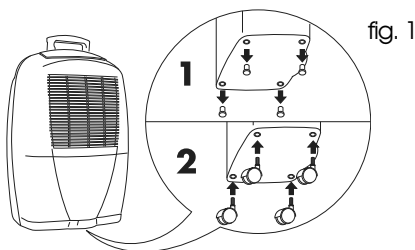

fig. 1
- 2) Remove the rubber caps from the base of the appliance by pulling them out, using pliers if necessary (see Figure 1/1).
- 3) Fit the wheels by inserting the shafts into the holes (see Figure 1/2)